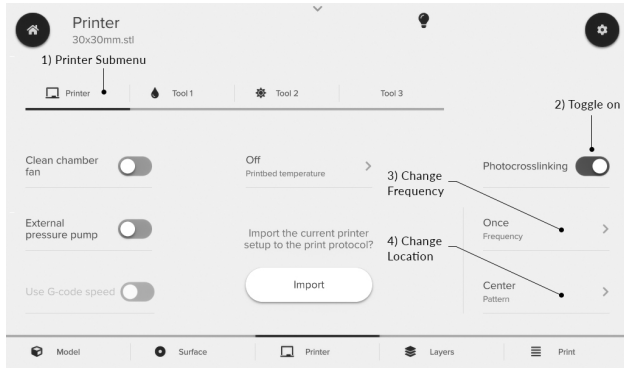

Figure 6: Designating the crosslinking frequency and pattern.
5. Proceed to the Printer menu. Toggle “Photocrosslinking” to adjust the frequency and patterning of photocrosslinking (Figure 6).